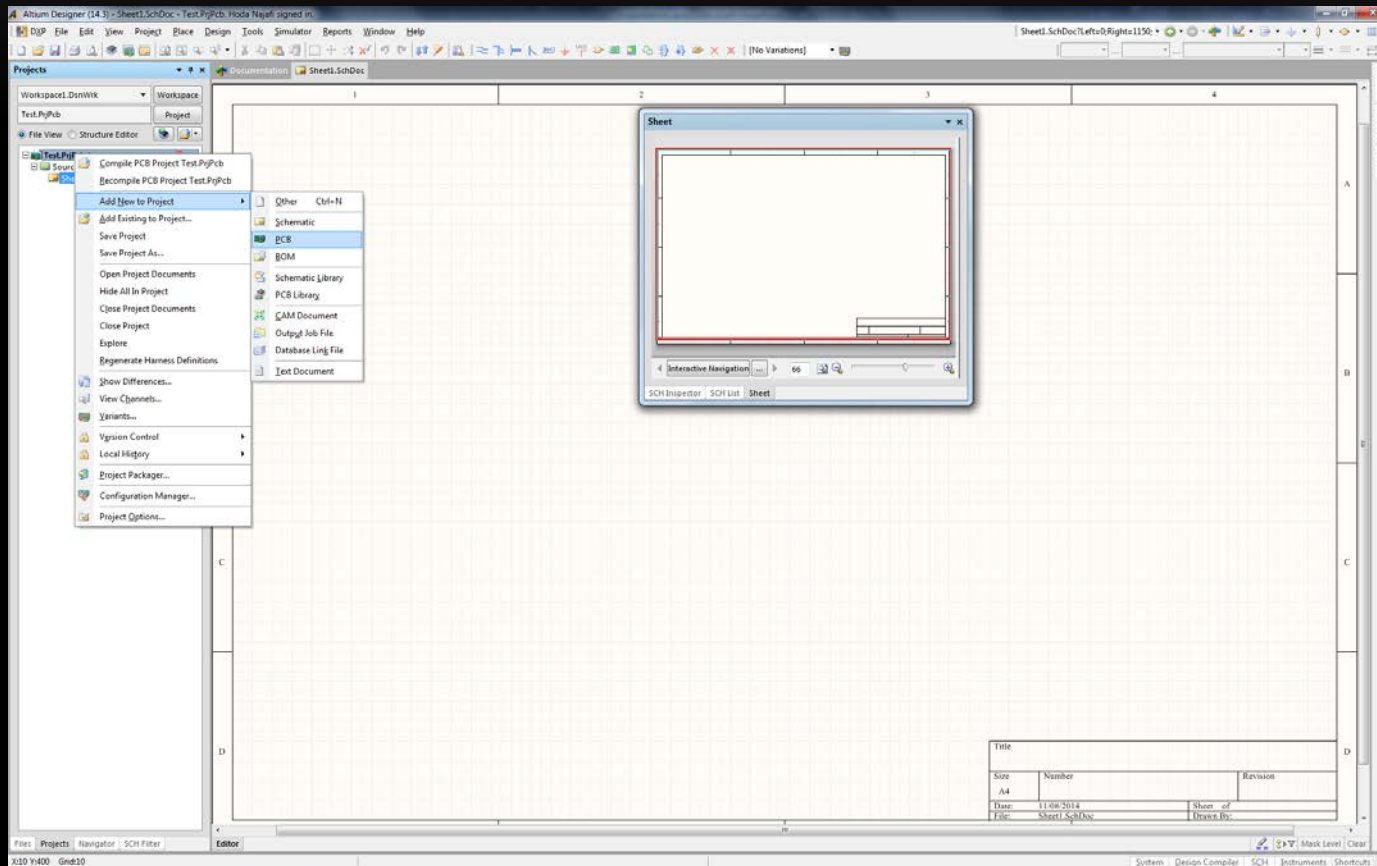

Figure 6
- b. Right click on the project > Add New to Project > PCB (Figure 6)